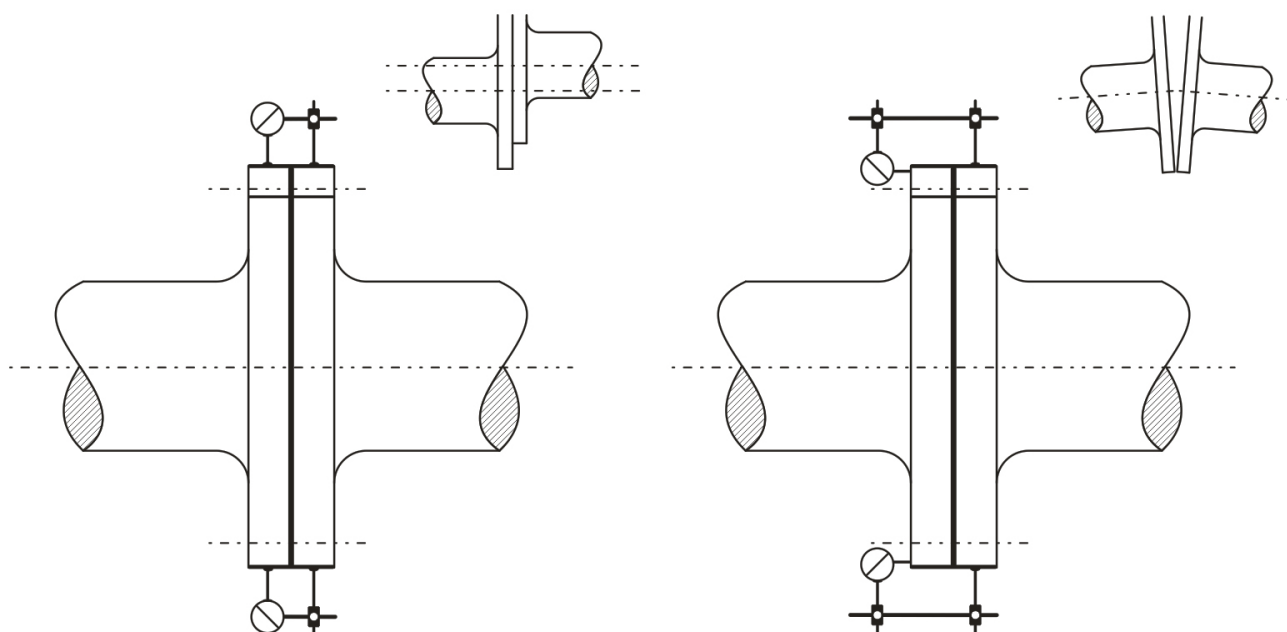

FIGURE 19. ALIGNMENT USING DIAL GAUGES - 1: RADIAL ALIGNMENT, 2: ANGULAR ALIGNMENT
4. If dial gauges are used, their scale must be adjusted so that about half the scale is available in both directions. Check the strength of the dial gauge holder to prevent possible bending, see Figure 19 on page 50.